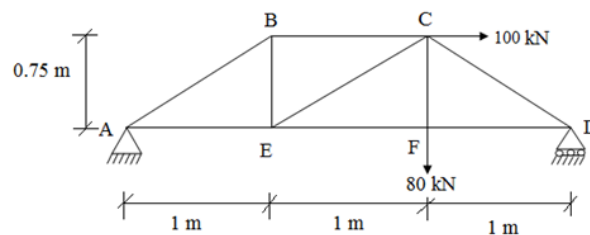

Figure 2
- (b) Determine the force in each member of the pin-jointed plane truss shown in Figure 2 using method of joints. [7M]